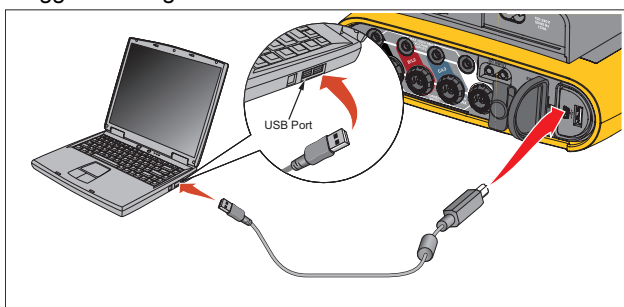

Figure 12. Power Logger to PC Connections
3. Connect the USB cable to the USB ports of the computer and the Logger. See Figure 12.